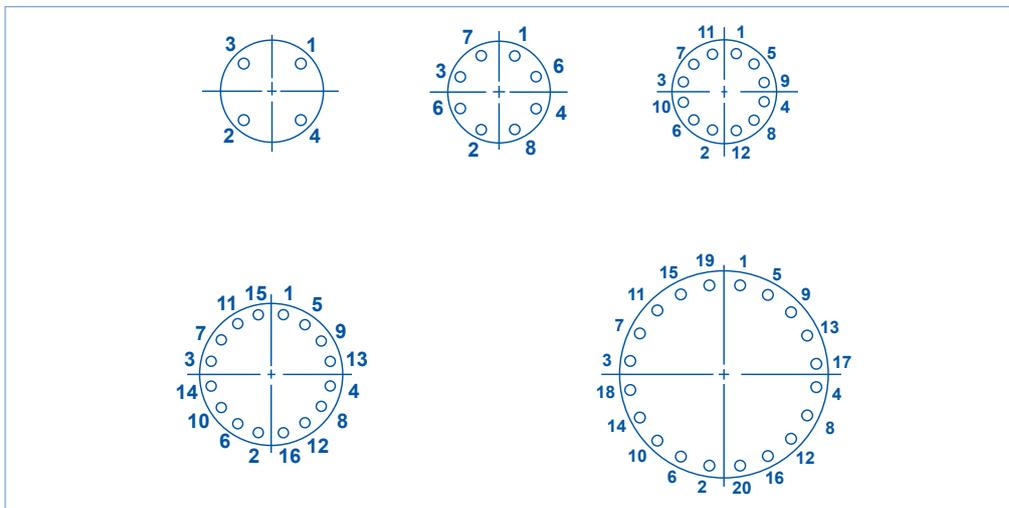

Figure 11: Bolt Torque Sequence as per ASTM D4024
- Diagonally as per the bolt torque sequence described in ASTM D4024 and shown on Figure 11. For flanges with more than 20 bolts, similar alternating bolt tightening sequences shall be used, as detailed in the method statements. Bolts shall be tightened, following the bolt torque sequence, first up to 60% of the recommended value and second up to 100% of the recommended value.